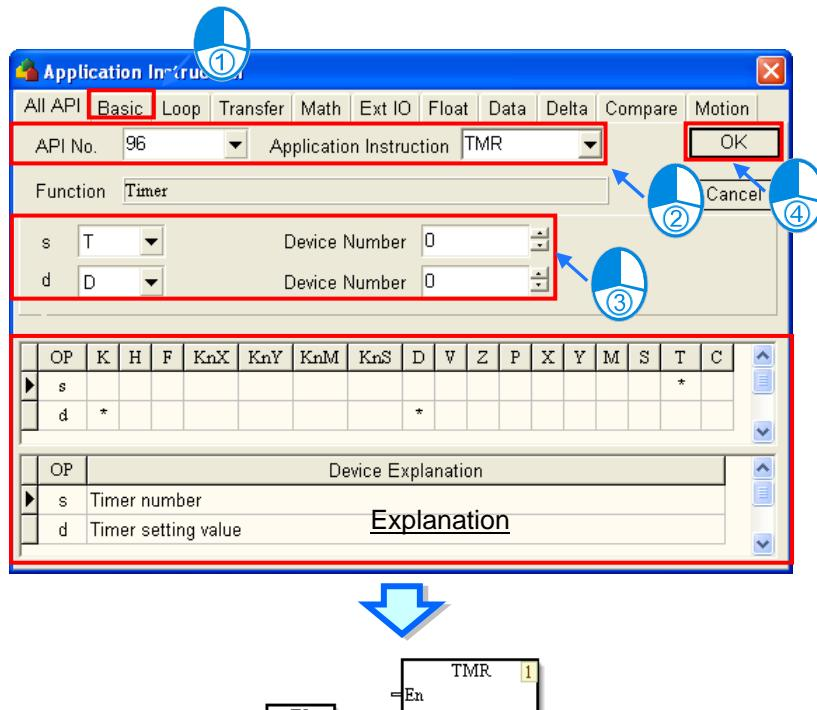

Figure 12-27 Instruction Wizard
- The users have to select an instruction type, select an instruction in the **API No.** drop-down list box or the **Application Instruction** drop-down list box, select devices which are supported according to the explanation at the bottom of the window, click **OK**, move the mouse cursor, and click a position in the program editing area, as shown in figure 12-27.